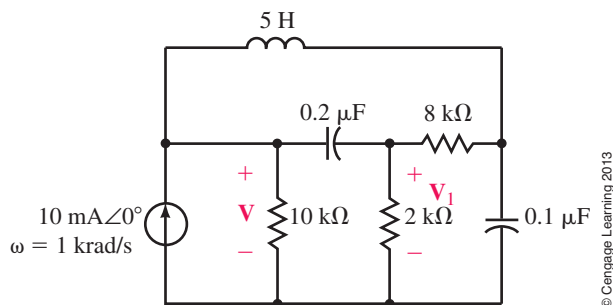

FIGURE 19-70
28. Refer to the circuit of Figure 19-70: